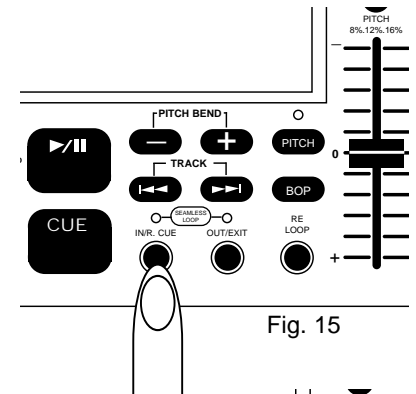

Fig. 15
- (1) Press **PLAY/PAUSE BUTTON (25)** so a CD is playing.
- (2) Press **IN/R. CUE BUTTON (15)**. This sets the starting point of the SEAMLESS LOOP. The **IN/R. CUE LED** will light (Fig. 15).
- (3) Press **OUT/EXIT BUTTON (18)** to set desired ending point of the SEAMLESS LOOP. The **IN/R. CUE** and **OUT/EXIT LEDs** will flash indicating SEAMLESS LOOP mode has been activated.